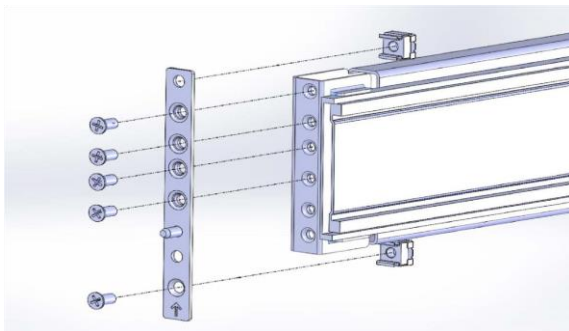

Figure 1.4 Right front mounting plate and rail
7. Insert one of the M5 cage nuts into the square rack hole immediately above the rail as shown in Figure 1.4.